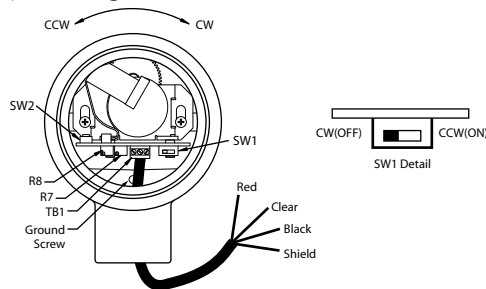

Figure 4:
- See Figure 4 on the next page for related information.
This provides access to the edge of the SG1000C's printed circuit board, namely the direction switch SW1 (the slide switch), and the calibration switch SW2 (the push-button switch). See Figure 4 for locations of these switches.
- If the encoder shaft turns in the CW direction as the process's shaft is turned from the 0° home to the 359° full-turn position, then set SW1 to the OFF position (i.e., toward the center of the PC board). See Figure 4.
process's shaft is turned from the 0° home to the 359° full-turn position, then set SW1 to the ON position (i.e., toward the edge of the PC board). See Figure 4.
- D) Assuming conditions (A), (B), and (C) are proper, and your SG1000C still seems to behave improperly, then try re-calibrating again, paying close attention to the six calibration steps.
- 2) If you have gone through troubleshooting hints (1A), (1B), (1C), and (1D), and if your SG1000C seems to otherwise respond properly, from 0° to 359° of rotation, with the only exception being that strange values other than 4 mA and 20 mA are output for the positions (e.g., 3 mA at 0° home position and 23 mA at the 359° full-turn position), then possibly the R7 and R8 factory potentiometer settings have been tampered with. See Figure 4 for location of these pots.